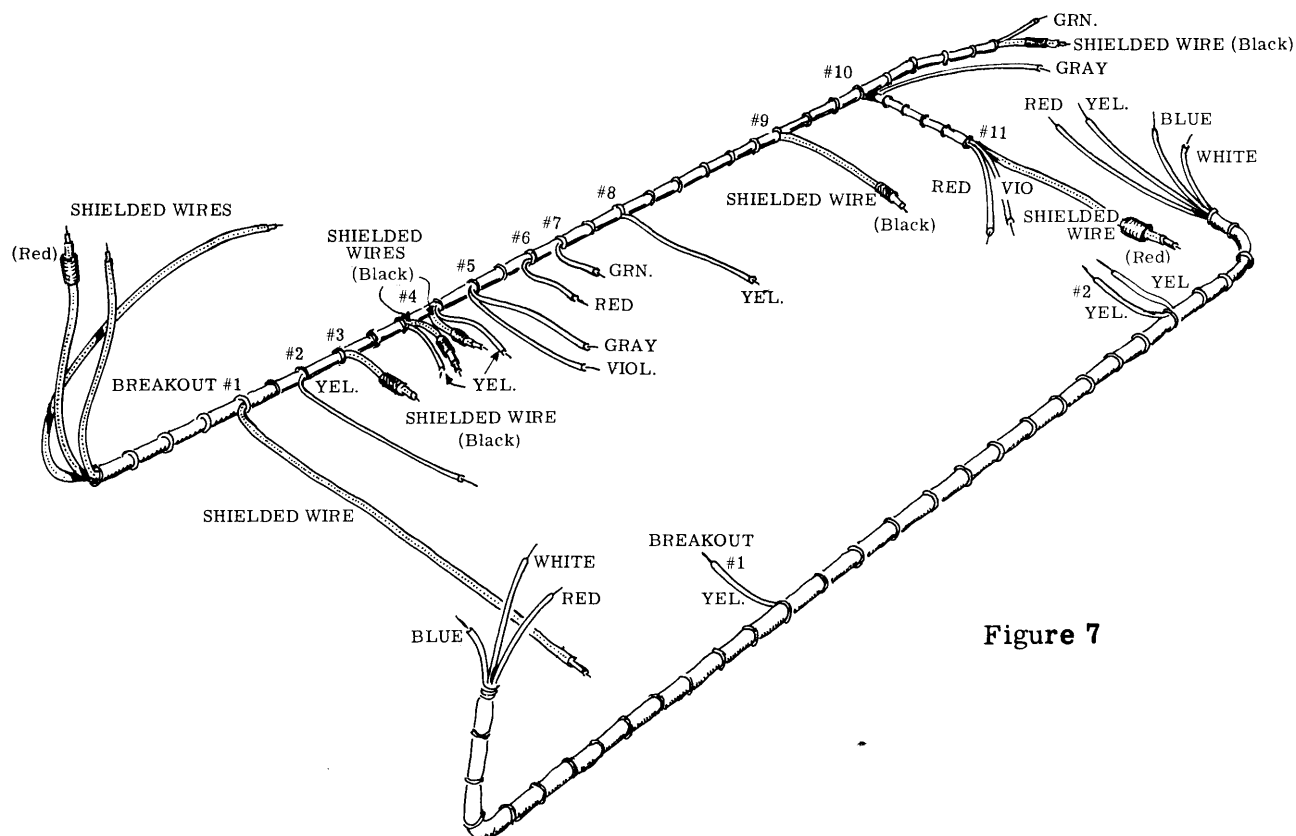

Figure 7
- () Select and install the wiring harness which contains shielded wire, dressing to conform with Pictorial 3. Refer to Figure 7 for harness layout.
- (✓) Number 8 breakout (yellow): connect to C9 (NS).
- (✓) Number 9 breakout (shielded): connect the center conductor to DD1 (NS), and connect the shield to DD2 (NS).
- (✓) Number 11 breakout (red): connect to FF1 (NS).
- (✓) Install the second wiring harness, shown in Figure 7, in place on the deck. Locate breakouts as shown on Pictorial 3 and connect wires as follows:
- (✓) Connect the red lead from T2 to CC1 (NS).
- (✓) Connect the blue lead from T2 to CC2 (NS).
- (✓) Place sleeving on one of the enameled leads from T2 and connect it to CC3 (NS).